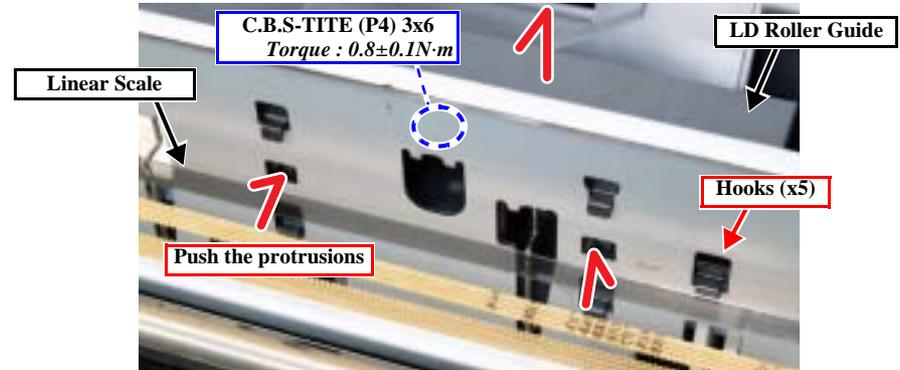

Figure 4-58. LD Roller Guide
4. Remove the screw securing the LD Roller Guide. (Fig. 4-58)